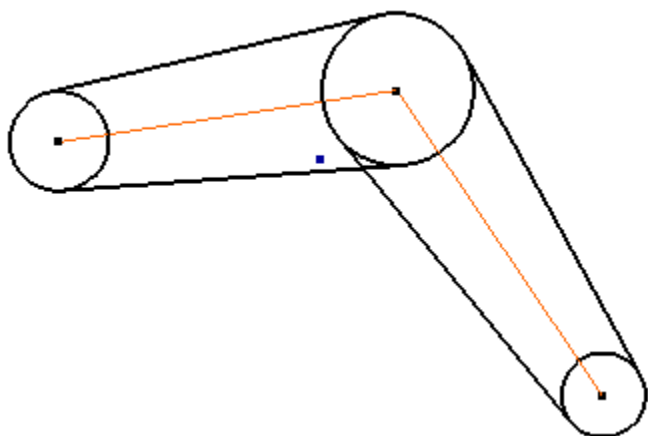

Figure 6: Construction lines.
3. Sketch lines between the three circle center points as shown in Figure 6.